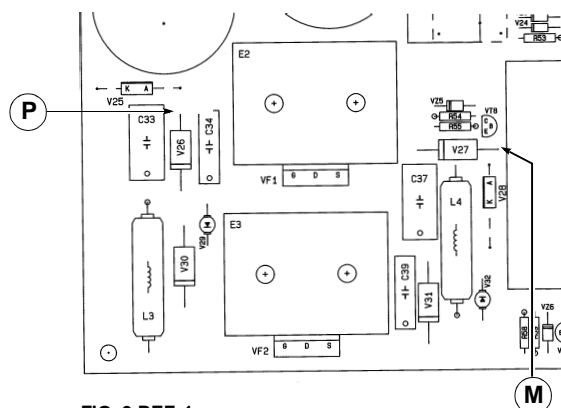

FIG. 9 REF. 1
2. Disconnect the feeder; set the oscilloscope with a range of 1V/Div and connect the probe X100 between points M and P (fig. 9); connect the machine to the power supply, switch it on: